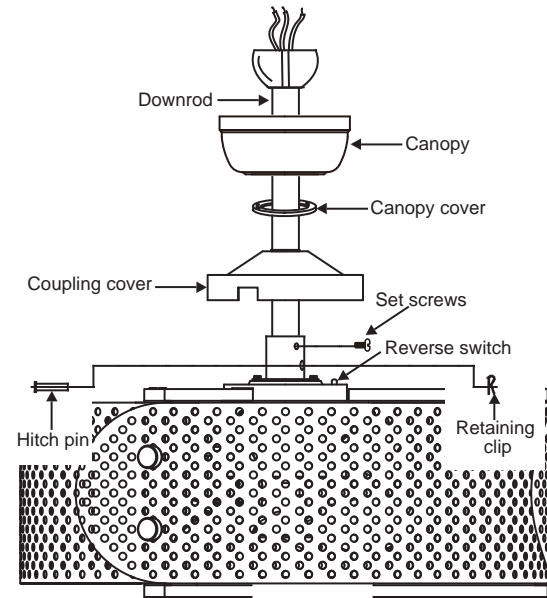

Fig. 9
Step 8. Slip the coupling cover, canopy cover and canopy onto the downrod. (Fig. 9)